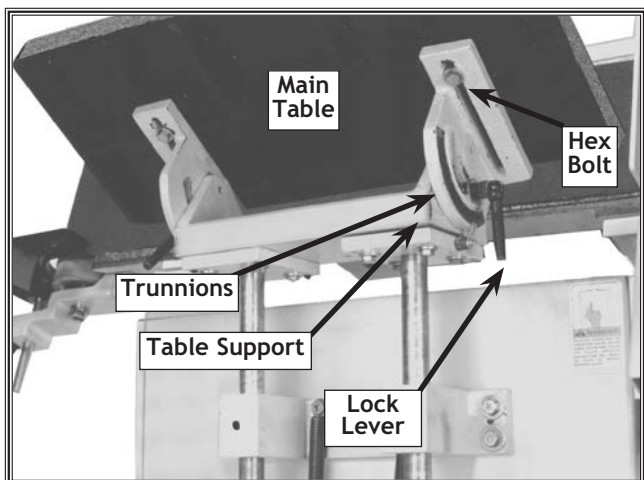

Figure 12. Main table and trunnions mounted on the table support bracket.
1. Position the main table on the trunnions and install two $\frac{5}{16}$ "-18 X 1" hex bolts and the $\frac{5}{16}$ " flat washers, but do not tighten yet. See Figure 12.